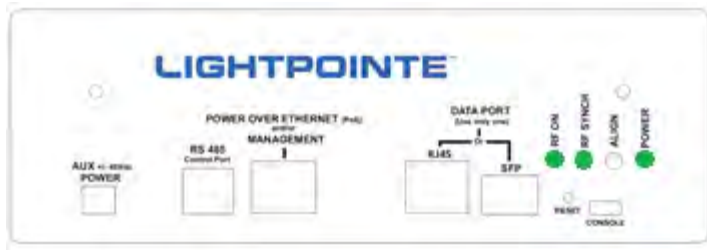

Figure 5-9: Default User Panel status after successful alignment
When aligning a 80 GHz radio with a narrow beam directional antenna pattern, it is important to understand that besides the “antenna main lobe” that contains most of the energy, there are also “antenna side lobes”. A “perfect” antenna would contain all energy in the main lobe but this is physically impossible. Although these side lobes contain far less energy - in the case of a good directional 80 GHz antenna the power of the 1st side lobe is typically more than 20 dB lower when compared to the main lobe’s peak power - one can “see” the 1st side lobe during the alignment process. This is mainly because in an 80 GHz antenna the main lobe and the 1st antenna side lobe are separated by an angle of just 2-3 degrees. This small value for the angular separation is actually close to the radiation angle of the main lobe itself. When installing a millimeter wave radio transmission system it is important to keep in mind that the antenna main lobe and the 1st antenna side lobe point in virtually the same direction. Aligning the system on a side lobe instead of aligning it on the main lobe will negatively impact performance of the system. For illustrative purposes Fig. 5-9 shows a typical antenna Radiation Pattern Envelope (RPE) diagram of a Cassegrain antenna.
14. When looking at the user panel (see Fig. 5-9) the following LEDs should be on: